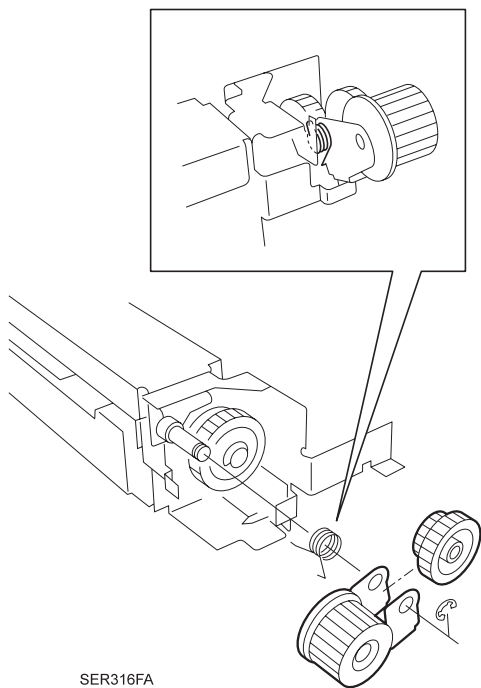

Figure 3
5. Remove the E-ring securing the MSI Link Gear to the idler shaft, and slide the Gear, along with the MSI Drive Gear Assembly off of the shaft (Figure 3).
5. Reinstall the Link Spring onto the Rear Latch (Figure 3).